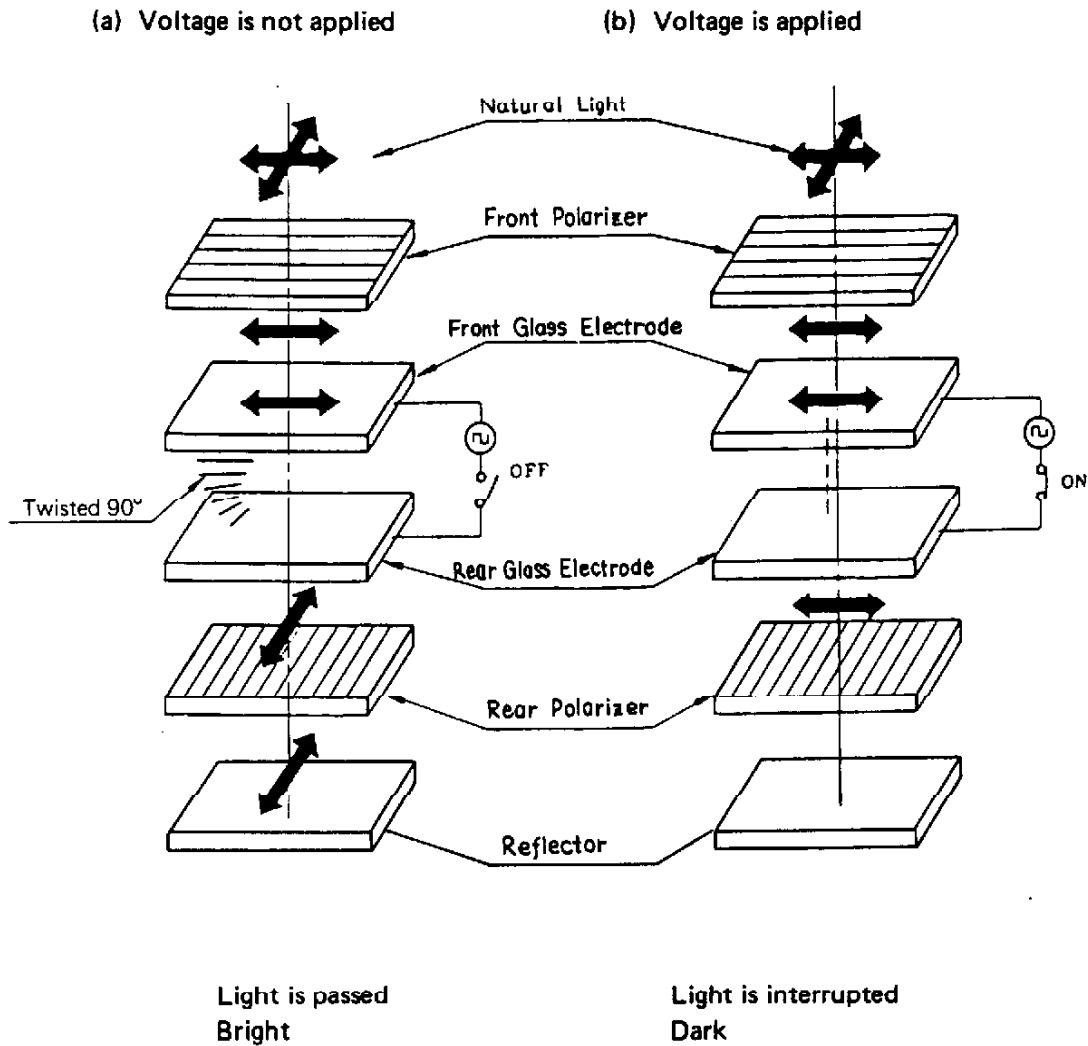

Figure 3-31. Operation Theory of LCD Panel
Figure 3-31 demonstrates how the LCD operates:
2. As shown in Fig. 3-31 (a), when the liquid is not electrically excited, its long cigar-shaped molecules are parallel to each other and perpendicular to the plates.
3. In Fig. 3-31 (b), voltage is applied and the liquid appears frosted in current carrying areas. Ion activity causes the molecules to scatter incident light.